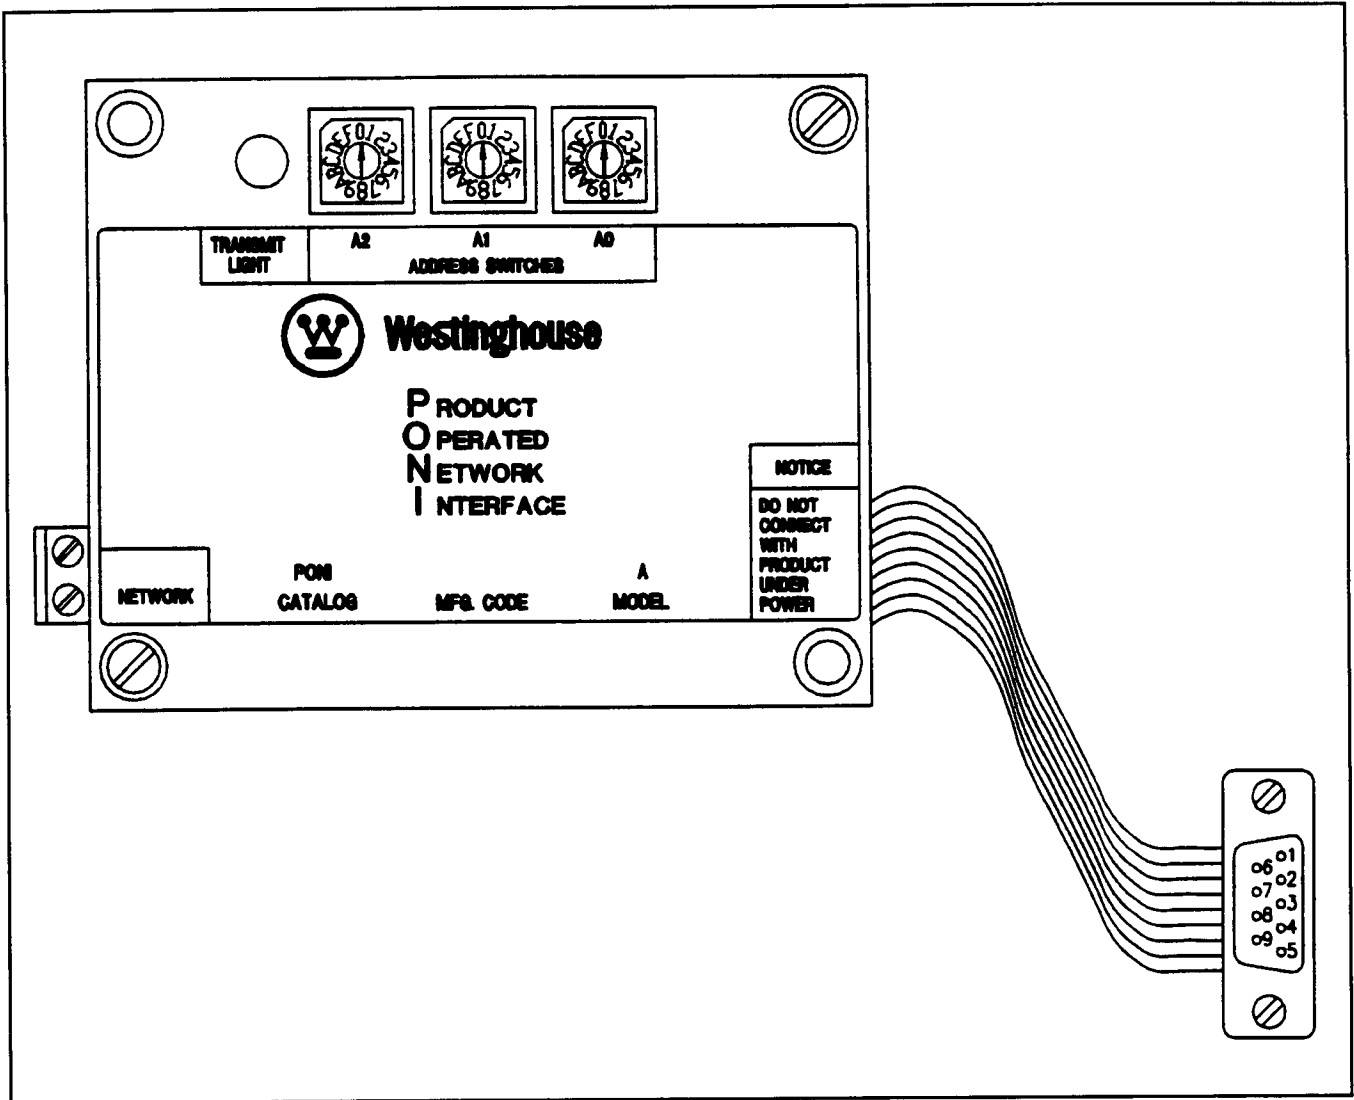

Figure 2.4 — PONI Communications Card Option
2.1.3.2 Communications Option — The Product Operated Network Interface (PONI) is a small printed circuit communications device that is mounted onto the back of the IQ-1000 II and connects the IQ-1000 II to the IMPACC local area network (see Table 1.A). The PONI is a separately purchased option (see Figure 2.4).